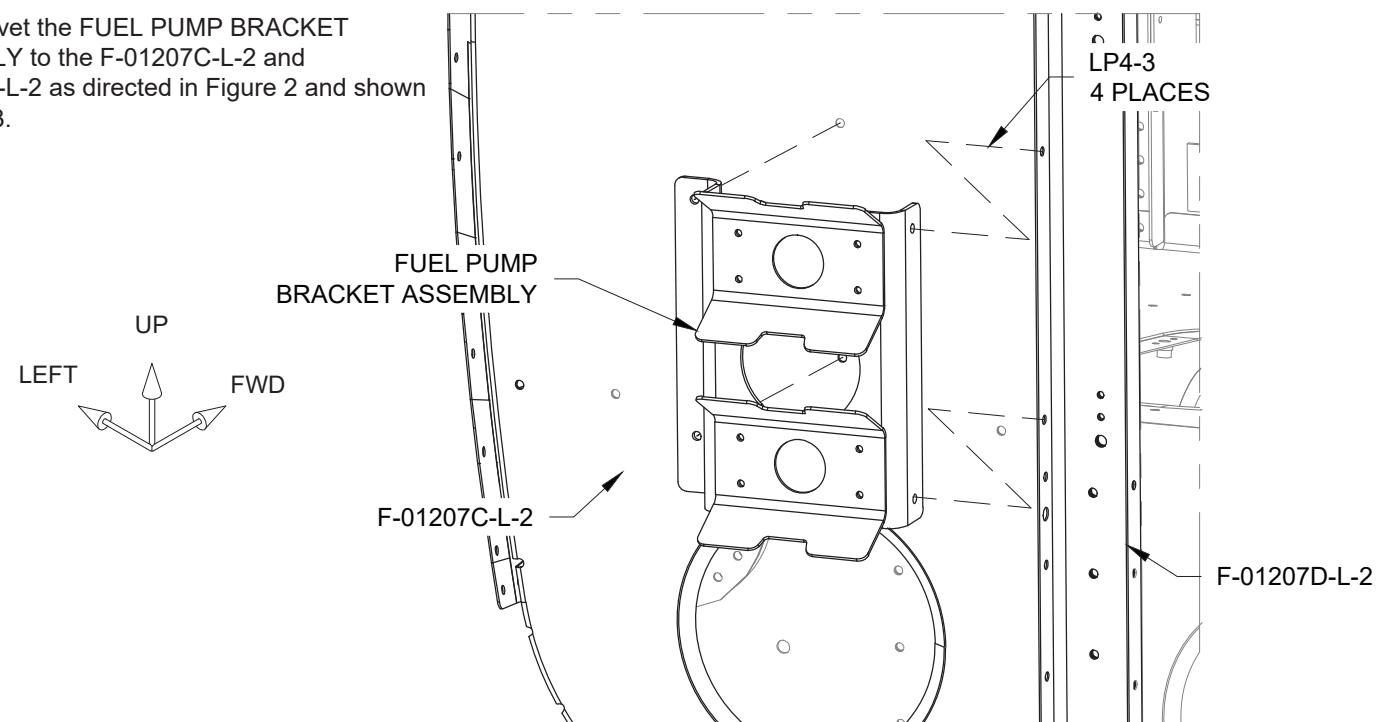

FIGURE 2: ATTACHING THE FUEL PUMP BRACKET ASSEMBLY TO THE F-01207C-L-2 AND F-01207D-L-2
Step 2: Rivet the FUEL PUMP BRACKET ASSEMBLY to the F-01207C-L-2 and F-01207D-L-2 as directed in Figure 2 and shown in Figure 3.